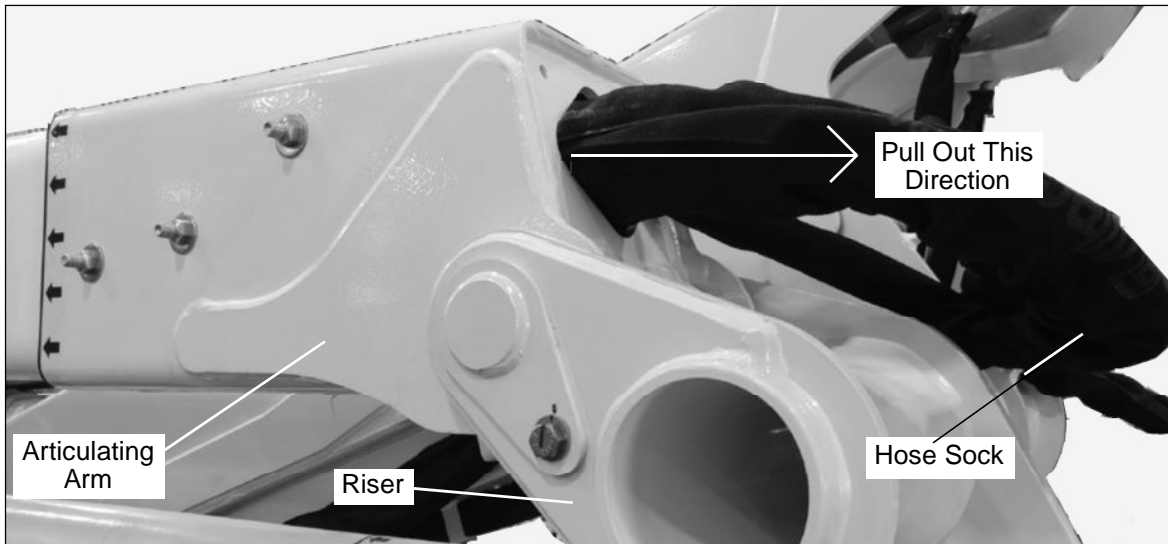

Figure 4 — Hose Sock at Articulating Arm Riser End
6. At the riser end of the articulating arm, carefully pull out the excess hose sock (refer to Figure 4). Carefully cut away the excess hose sock leaving 4" to 6" that can be reinserted back into the opening of the articulating arm after the excess is cut off.